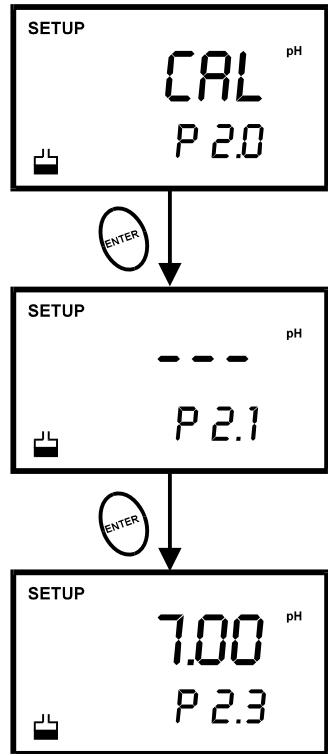

Figure 24 - P2.0: View calibration data
3. *pH 300 meter only:* Press the ENTER key repeatedly to view previous calibration data. See Figure 24.